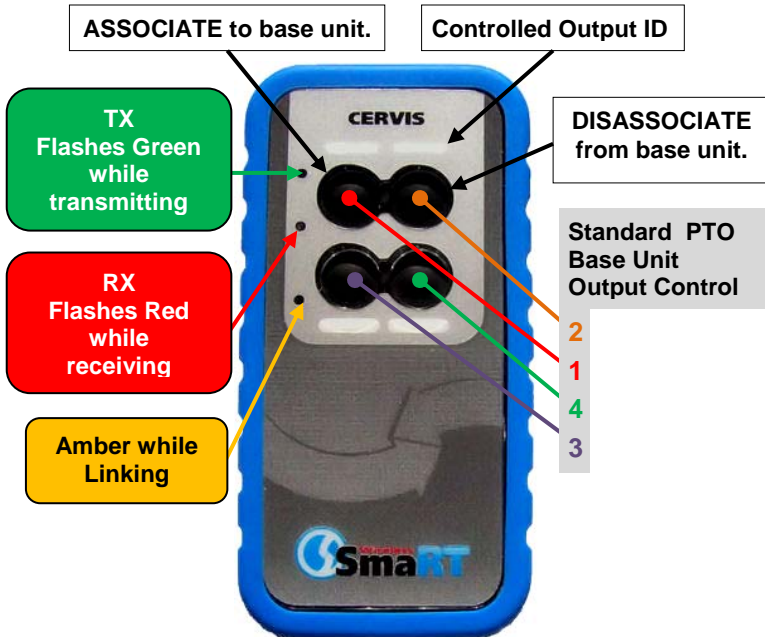

Figure 5. PTO-904 Front Panel
The front panel of the SmaRT PTO-904 Handheld Remote has four (4) push-to-operate buttons and three (3) diagnostic LEDs. PTO buttons 1 and 2 have dual functions as described in Figure 5.